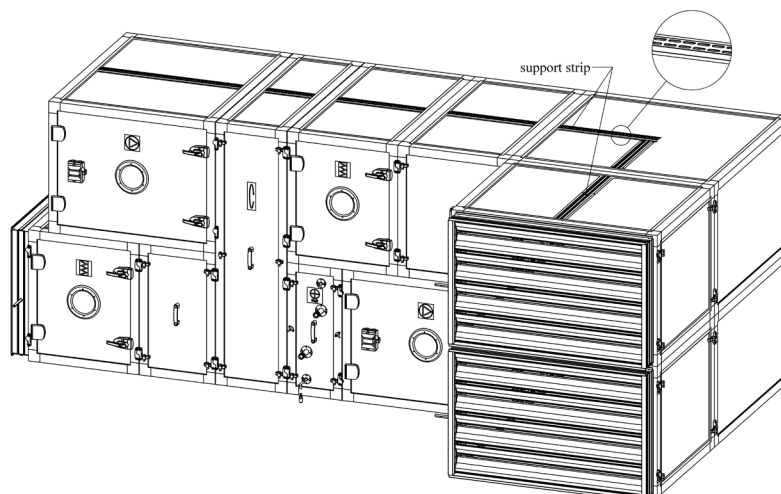

Figure 9.1
1. There are roof support strips (installed at factory) on the top of the outdoor unit, as shown in Figure 9.1.